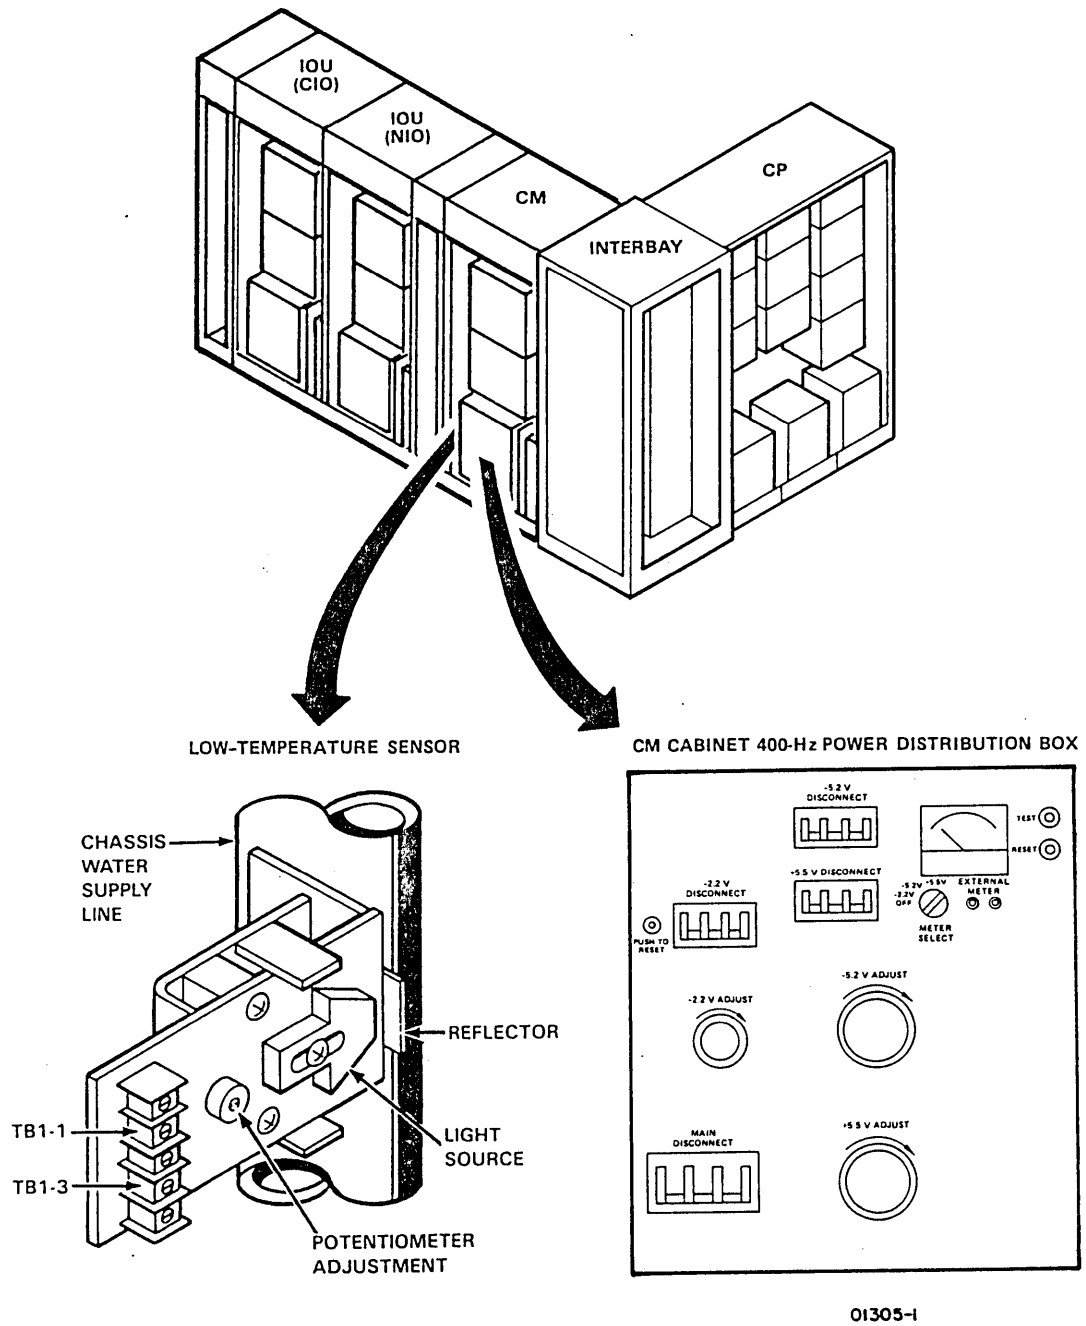

Figure 4-32. CM Power Controls and Adjustments
- ___ 7. Zero percentage meter on power distribution box (figure 4-32) as follows: